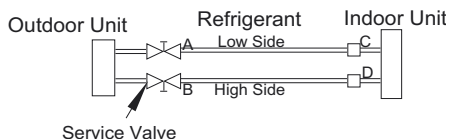

Fig. 24 – Service Valve
1. Completely tighten flare nuts A, B, C, D, connect manifold gage charge hose to a charge port of the low side service valve (see Fig. 24).